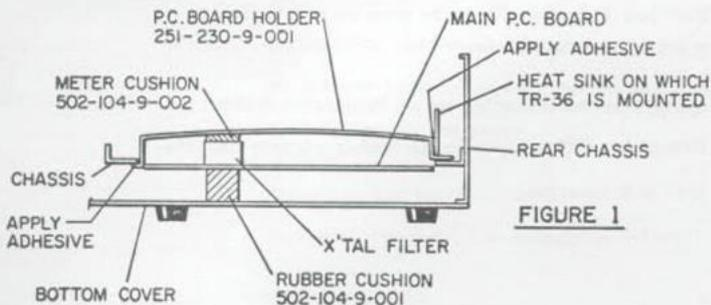

FIGURE 1
16. Paste two meter cushions (520-104-9-001 on top of Xtal filter (Fig.1).